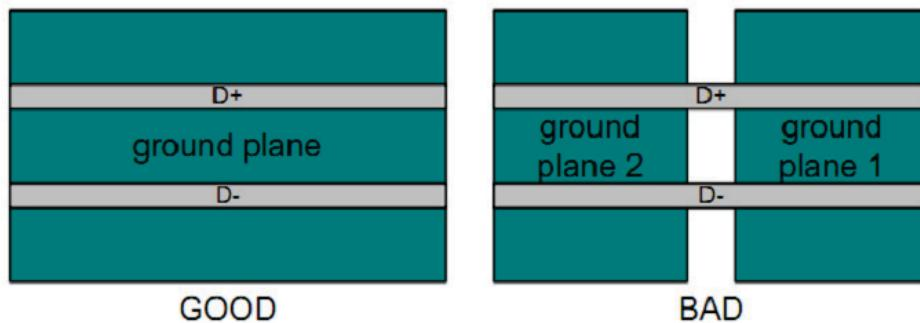

Figure 4-27 USB Signal Trace Reference Plane
- In order to suppress EMI, the USB signal traces are recommended to be placed on inner layers and ensure the reference plane is continuous and complete; otherwise, it will cause discontinuities in the trace impedance and increase the external noise on them. Shown as Figure 4-27.
- The delayed serpentine traces of SS\_TX and SS\_RX signal should be placed as close as possible to the source. Shown as Figure 4-27.